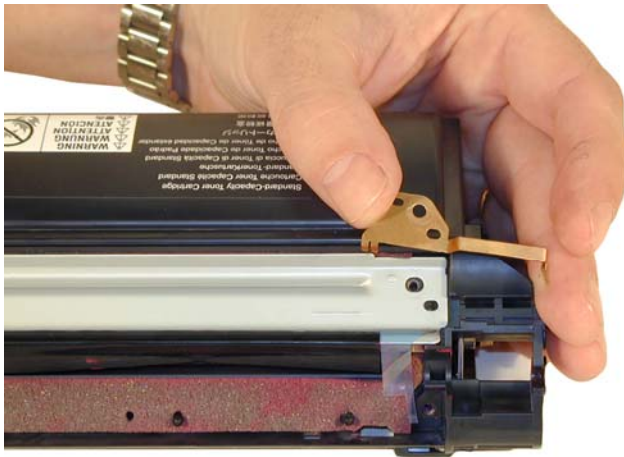

Figure 20
14) Remove the copper contact. See **Figure 20**